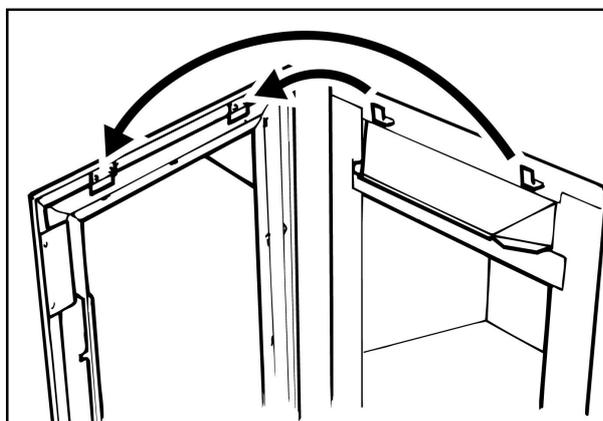

Figure 38. Fascia top location (Fascia may differ from that shown)
4. **Make sure that the control linking bar has been detached (See 2 above).** Carefully lift the fascia unit upward to clear the upper retaining brackets on the hotbox (See figure 38). Pull the fascia clear and place carefully aside.